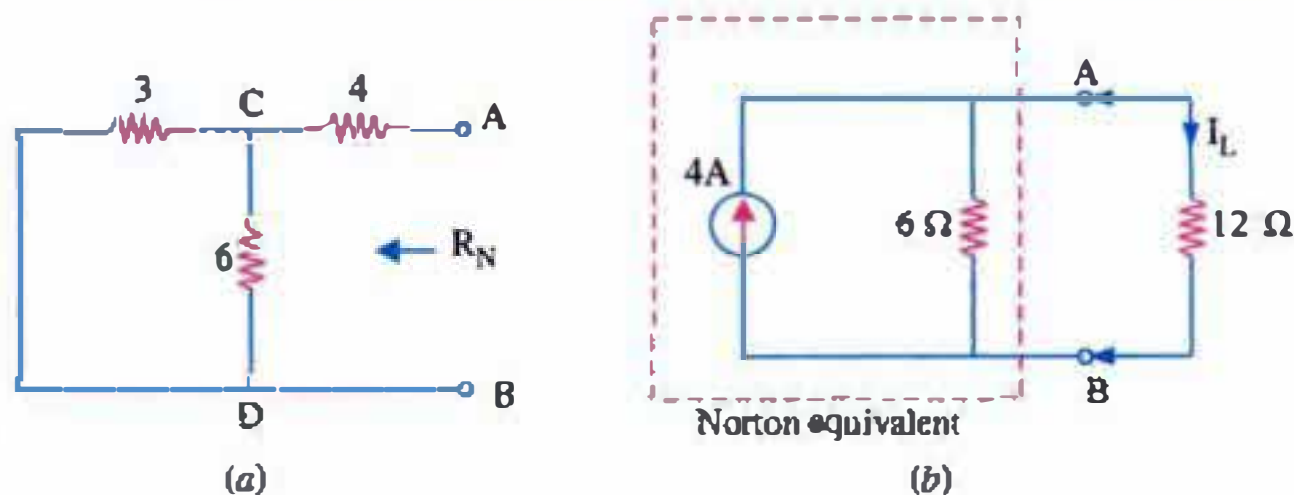

Fig. 4.19
2. Second Step. Remove the short circuit, thereby leaving terminals A and B open. Also remove the battery. Since its internal resistance is zero, it is replaced by a resistanceless piece of connecting wire thereby closing the circuit [Fig. 4.19 (a)]. The resistance R_N of the circuit as viewed from terminals A and B is
Hence, the Norton's equivalent of the given circuit is as shown in Fig. 4.19 (b). Load current I_L through 12Ω resistor can be found by using the Proportional Current Formula (Art. 2.16).